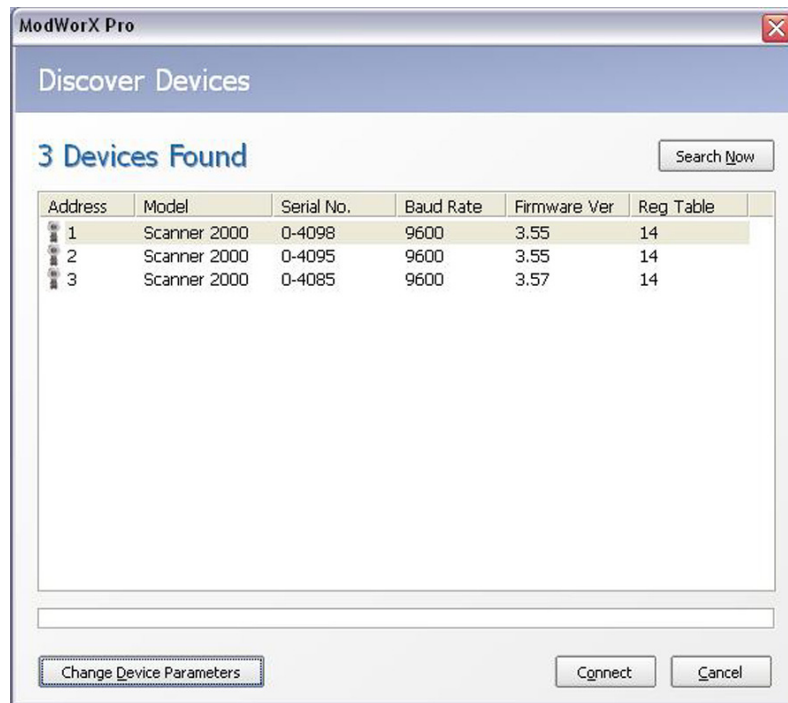
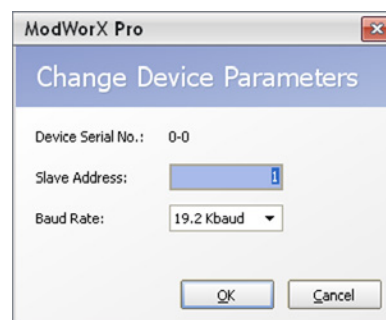

Figure 1.3
Figure 1.4
- **Discover Device** – recommended for multiple-instrument networks when the slave address or baud rate is not known. When the software attempts to connect to a Scanner, it will compile a list of instruments on the network, and the user then chooses a device from the list (Figure 1.3, page 10). A **Search Now** button will appear, allowing the user to perform a new search for additional connected devices, if desired. The devices are ordered by slave address, with the lowest address at the top of the list. If two or more devices have the same slave address and baud rate, the **Change Device Parameters** button allows a user to select a new slave address and/or baud rate for any detected device without leaving the Discover Devices dialog (Figure 1.4, page 10).